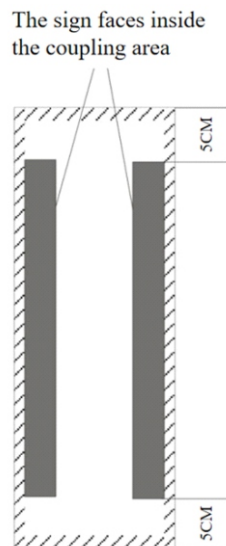

Figure 7 Coil coupling area indication
- 4.Coil installation as shown in Figure 7, pay attention to the coupling surface, between the two coils and No metal or living organisms are allowed to enter within 5cm of the two coils around.